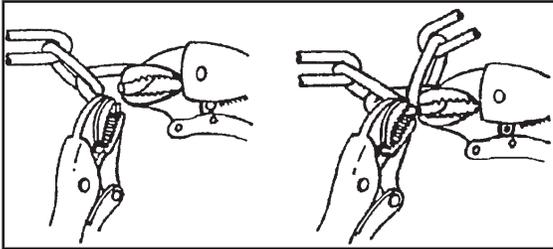

Figure 11
- 2) Connect the hand chain ends together as shown in **Fig 11.** by twisting open the last link on one end of the chain, and slipping the last link on the opposite end onto the open link.